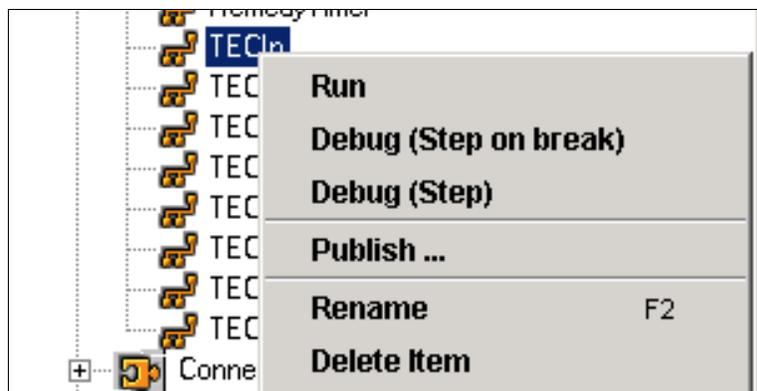

Figure 3-9 Run AssemblyLine
- Right-click and select **RUN** to run TEC in AssemblyLine, as shown in Figure 3-9.